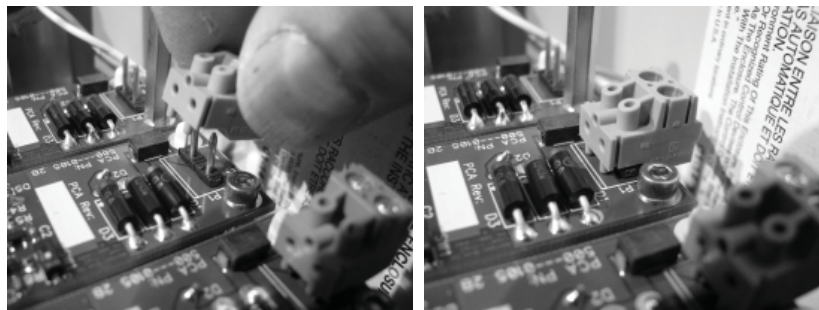

Figure 4 - Plug the Channel Input Connector onto the Channel Input Pins of the Input Module
- d. Plug the connector onto the Channel Input pins of the Dry Contact Input Module (see Figure 4).